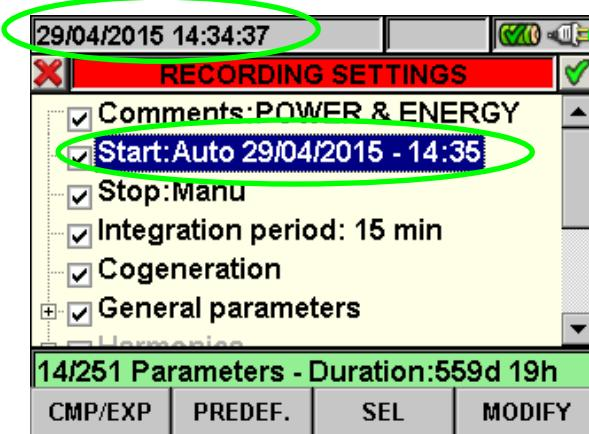

Fig. 90: Correct Date/Hour
2. Press **F4** key (alternatively touch the **MODIFY** at display). In the bottom of display a command bar with “Manu” is shown. Press **F3** key (**MOD(+)**) or **F4(MOD(-))** and select **“Auto”**. Use left or right arrows keys to move on date and hour fields. Using the up arrow key or **F3 (MOD(+))** key to increase the value and the down arrow key or **F4 (MOD(-))** key to decrease the value. Set a correct Date/Hour as shown in Fig. 90.